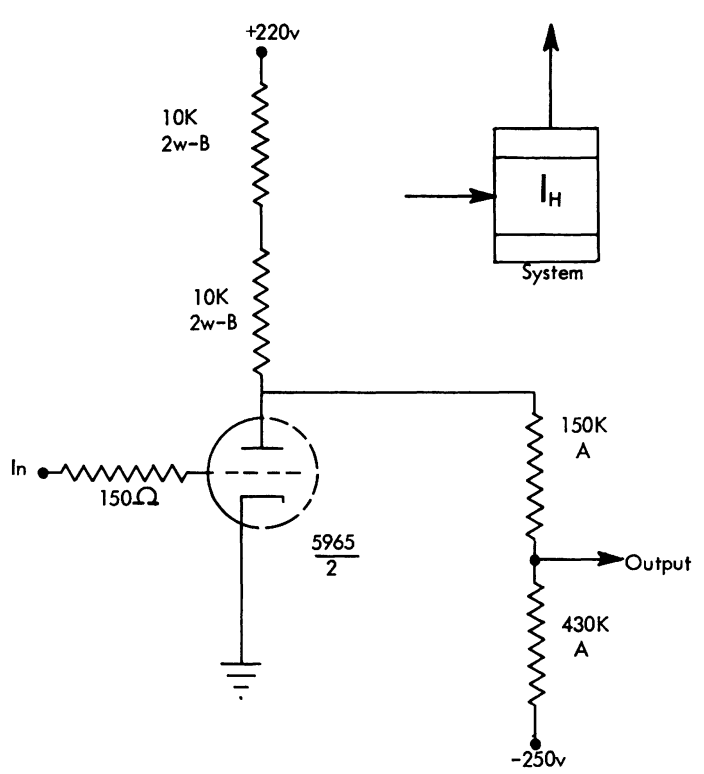

FIGURE B9. INVERTER ( $I_H$ )
The special circuits IH and PCFA are used to supply driving voltage of opposite polarities to the circuits feeding opposite ends of the moving clutch coil. The IH (Figure B9) is designed so that a 40v signal produces a swing of about 140 volts at the plate. The input divider is provided for two purposes: (1) for dividing the two sets of input voltages so that the tube is cut off for the more negative voltages of each set, and conducts for the more positive voltages of each set, and (2) to provide grid current limiting for the upper level voltages. With the tube removed, the divider tends to produce voltages of about -94 volts for +10v input, +60 volts for +150v input and -250 volts for a floating input. The equivalent plate circuit is 24K returned to about +83 volts. The large resistance in the plate circuit is used to provide a large plate swing.